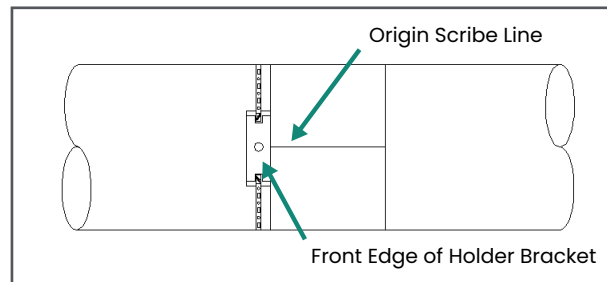
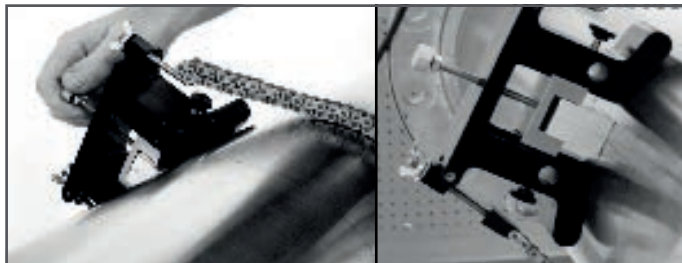

Figure 26: Lining up the First Bracket
Figure 27: Positioning the CFG-PI Holder Bracket
3. Line up one edge of the CFG-PI holder bracket with the origin scribe line and fully tighten the chain or strap (see *Figure 26* and *Figure 27*).
4. Install the transducer dummy block to verify the circumferential and axial location. Center the indicator line on the block to line up with the scribed mark (see *Figure 27*).